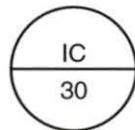

Figure 43. Instrument Tag
1. Determine the measured variable indicated in the instrument tag in figure 43.